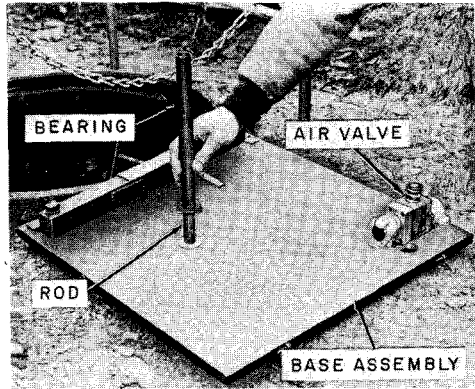

Fig. 3—Placing Bearing over Rod on Base Assembly
4.01 Remove the cover from the base of the B Fishline Kit. Assemble the rod to the base, using a washer on each side of the base, and place bearing over the rod, as shown in Fig. 3. Position the base near the manhole and place a spool of B Fishline on the rod and bearing assembly so as to feed over handle side of spool brake as indicated in Fig. 9.